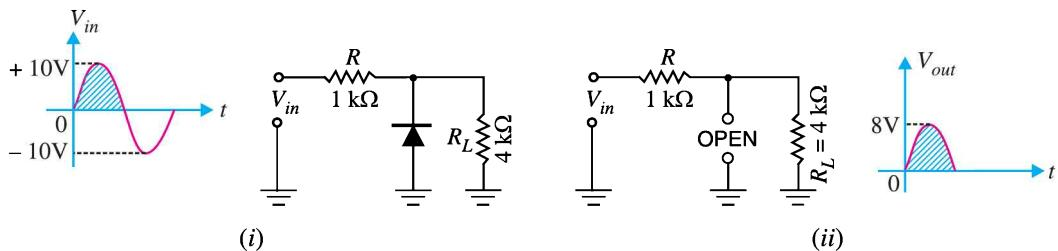

Fig. 18.29
**Example 18.8.** The negative shunt clipper shown in Fig. 18.29 (i) has a peak input voltage of + 10 V. What is the peak output voltage from this circuit?
**Solution.** When the diode is connected in parallel with the load, it is called a shunt clipper. During the positive half-cycle of input ac signal, the diode is reverse biased and it will behave as an open. This is shown in Fig. 18.29 (ii). With diode as an open,